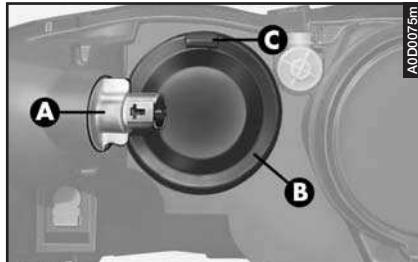

fig. 42
- Turn counter-clockwise and remove the direction indicator bulb holder (**A**-**fig. 42**) without disconnecting the connector to widen the working space.